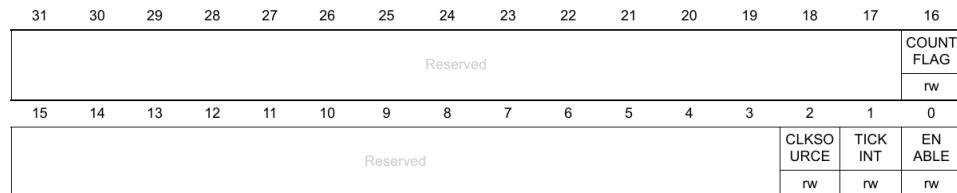

Fig. 12.3: Control Register (CTRL)
**Solution:** Fig. 12.3 shows the SysTick CTRL register. 0x00010000 is used in the above command to mask all the bits except for bit 16, which is the COUNTFLAG. The **while** loop will stop once COUNTFLAG = 0. The while loop is used for the delay.
**Solution:** From Fig. 12.3, ENABLE = 1 enables the counter (for delay) and CLKSOURCE = 1 enables the 8 MHz internal RC clock.